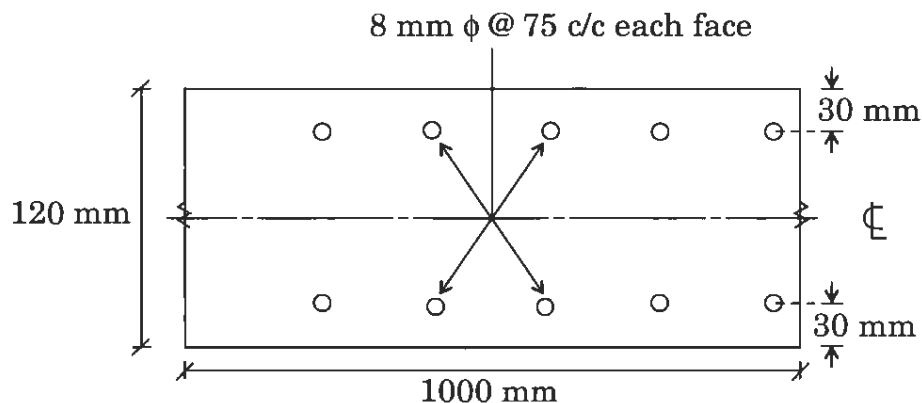

Figure 10
- (c) The floor of a water tank is subjected to a direct pull of 50 kN/m and bending moment of 0.5 kNm/m in the vertical plane. A section of the floor is shown in Figure 10. Find the maximum stresses in concrete and steel. Assume M 30 concrete. Permissible bending stress in concrete = 10 MPa. Use Fe 415. 20